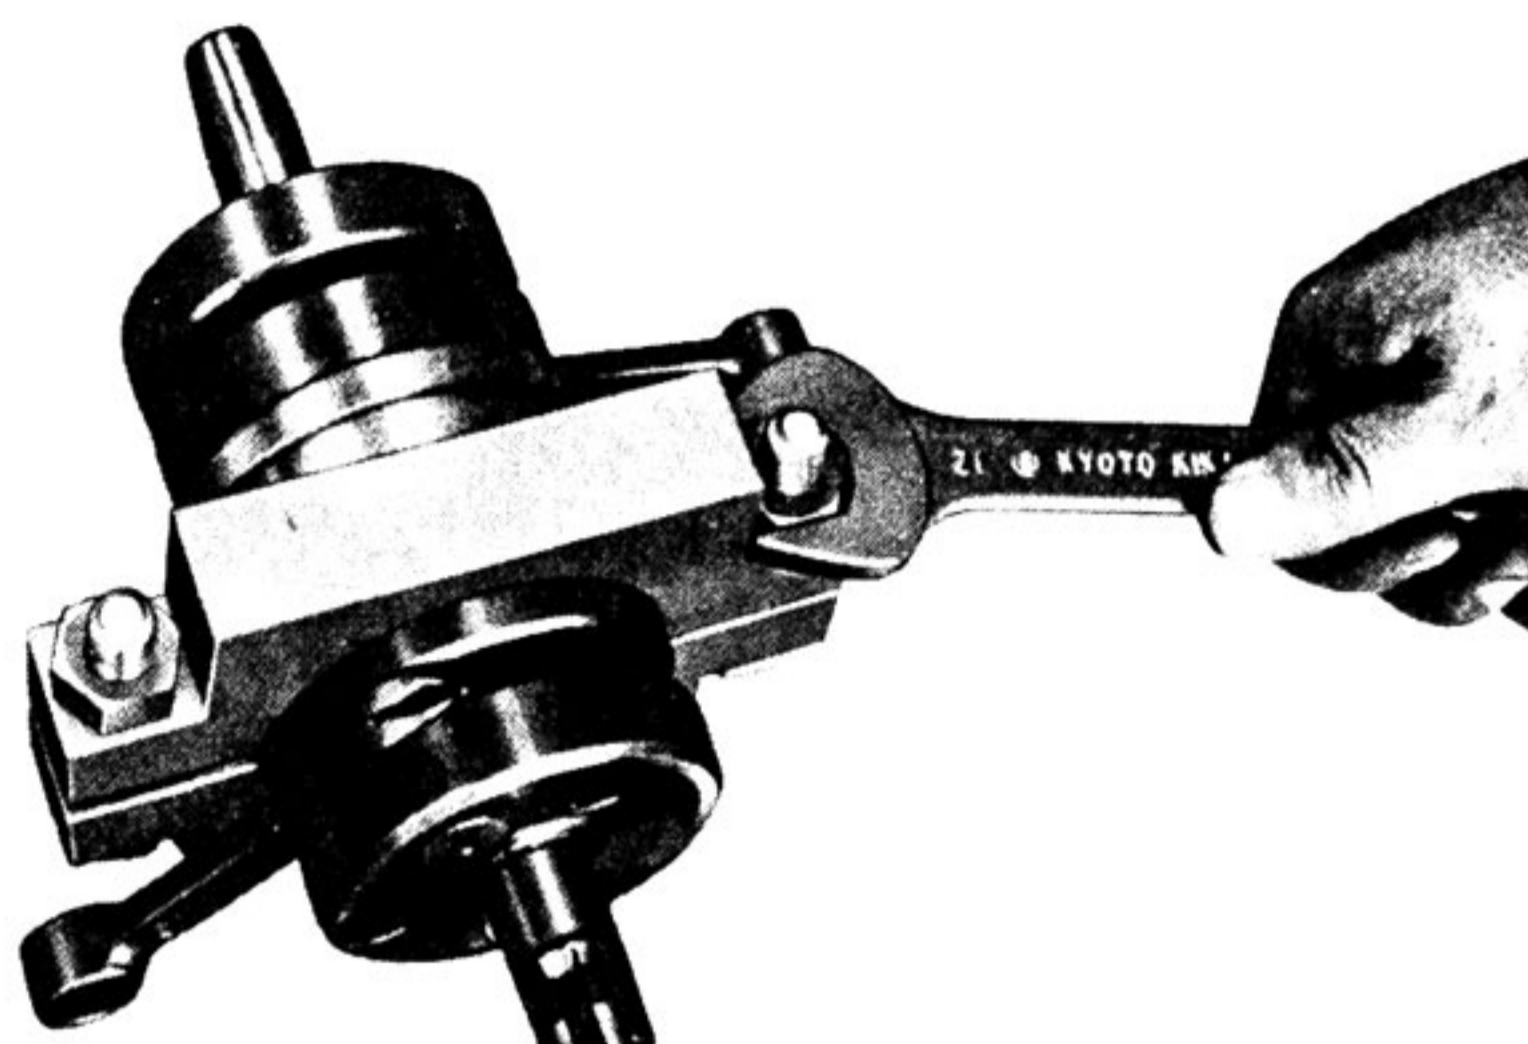

Fig. 4-17-6
- (2) Fully tighten the bolts of tool (1) and (2). Failure to tighten the bolts completely can result in tool failure. (Fig. 4-17-6)